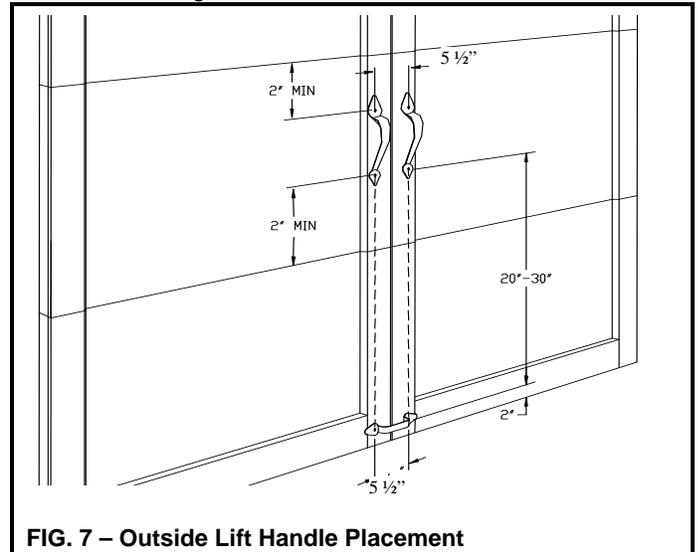

FIG. 7 – Outside Lift Handle Placement
**Step 1:** Center the horizontal ornamental lift handle horizontally on the outside of the bottom door section. Using the handle as a template, mark the holes to be drilled. The holes must be located exactly 2" from the bottom of the section (See Fig. 7).
**Step 6:** Take the two vertical ornamental handles and position on the 2nd section. Using the handles as a template, mark the holes to be drilled. With the sections stacked, the lower hole on each vertical handle must lie between 20" and 30" vertically from the holes on the bottom handle. The holes on each vertical handle should be centered 5-1/2" horizontally from each other. The holes on both vertical handles should line exactly with the holes on the bottom horizontal handle. No hole may be closer than 2" to the top or bottom of the section (See Fig. 7).